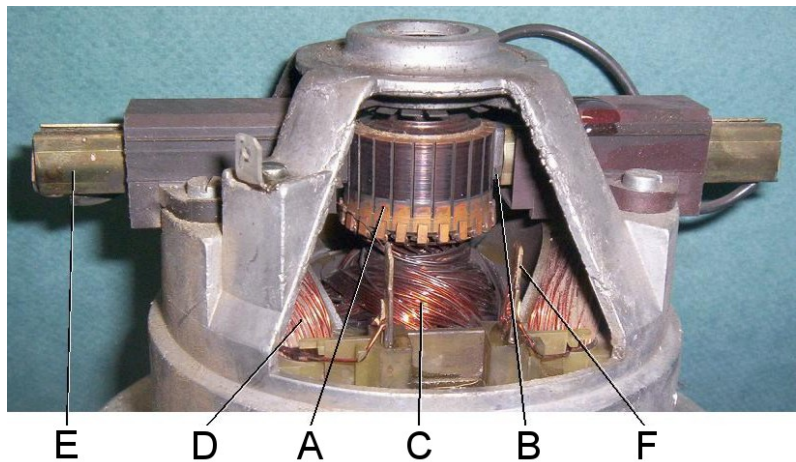

Figure 6.12: Series Wound DC motor internal diagram. Public Domain: https://en.wikipedia.org/wiki/File:Universal_motor_commutator.jpg
Series wound motors: They are often called self-excited because the current going through the stator field winding is the same current that goes through the armature, as shown in Figure 6.11B. Note for Figure 6.12: (A) commutator, (B) brush, (C) rotor (armature) windings, (D, F) stator (field) windings, (E) brush guides.